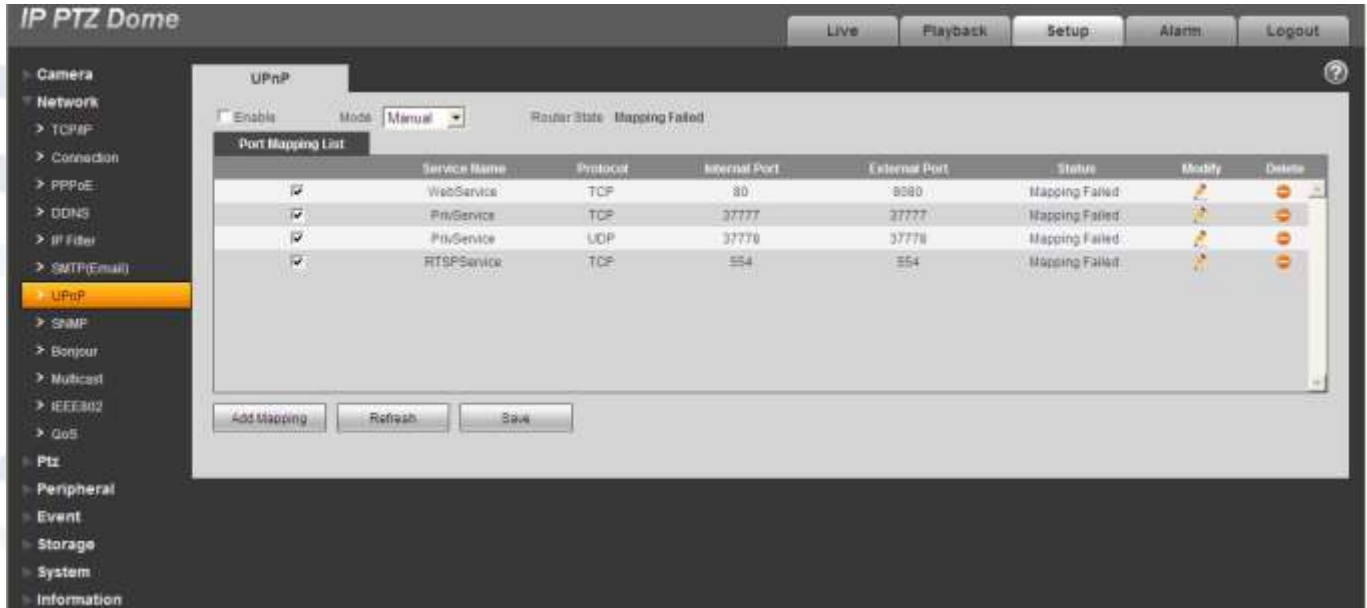

Figure 6-38
- **Manual mode:** Select an item in the list, you can modify and delete. Click Add mapping button, you can add a new one. See Figure 6-38.